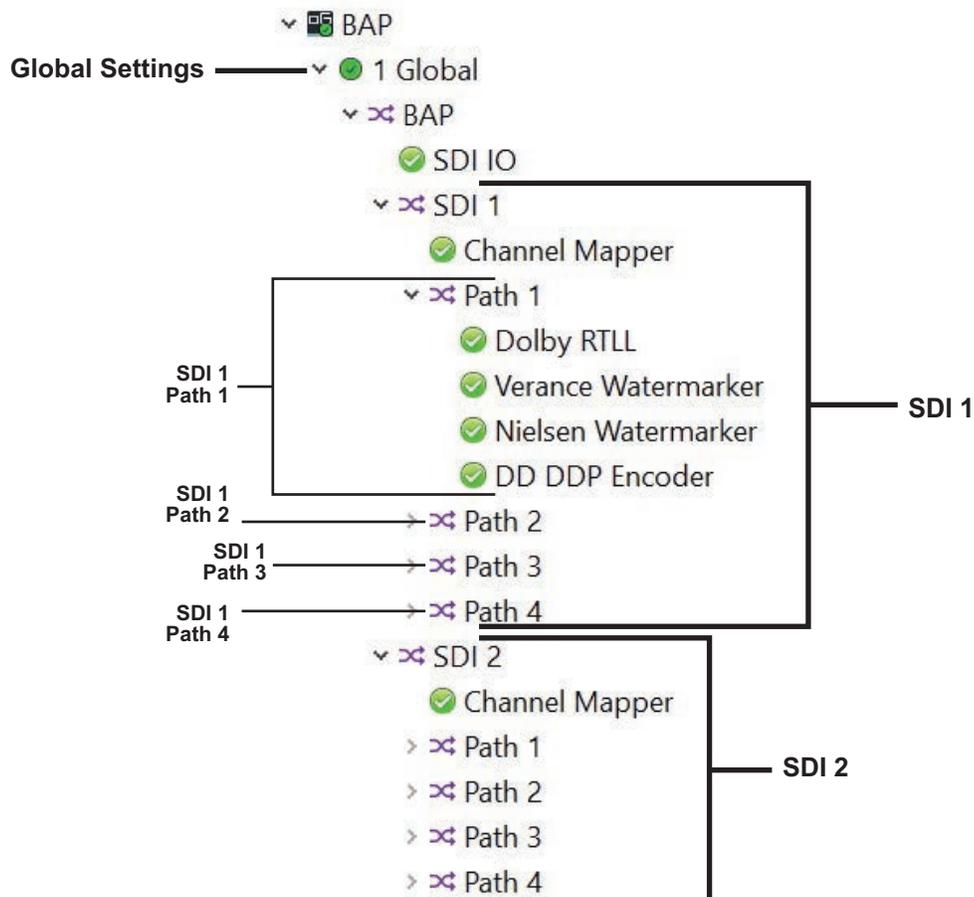

Figure 11 Example of the BAP Tree View in DashBoard
The BAP interfaces are accessed by expanding the main BAP node in the Tree View and selecting a series of sub-nodes. (Figure 11)
- Subsequent sub-nodes display with the nomenclature of **Path x** where **x** represents the output path for that SDI signal (there are four per SDI) and **y** <interface name> represents a setup step. Expand these sub-nodes to access the encoding and watermarking configuration options. In Figure 11, the user expanded the SDI 1 Path 1 node to access the Dolby RTLL, Nielsen Watermarker, and Dolby Digital (DD) DDP Encoder sub-nodes.